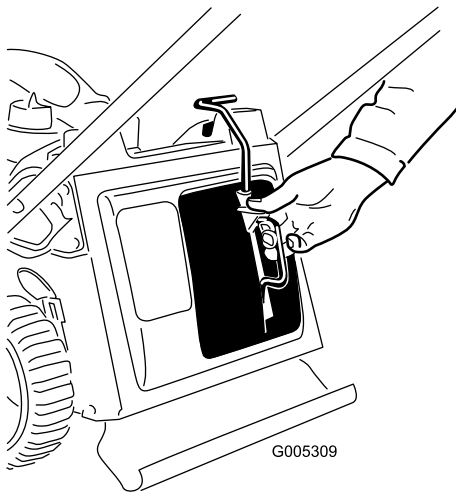

Figure 30
3. Insert the mulch plug (Figure 30).